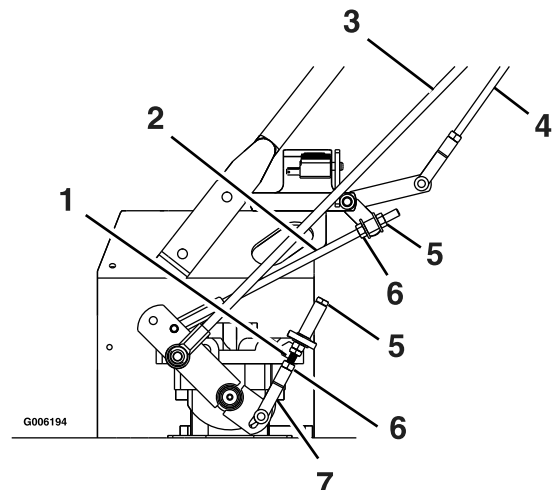

Figure 15
4. Loosen the nut against the neutral control linkage yoke as shown in Figure 15